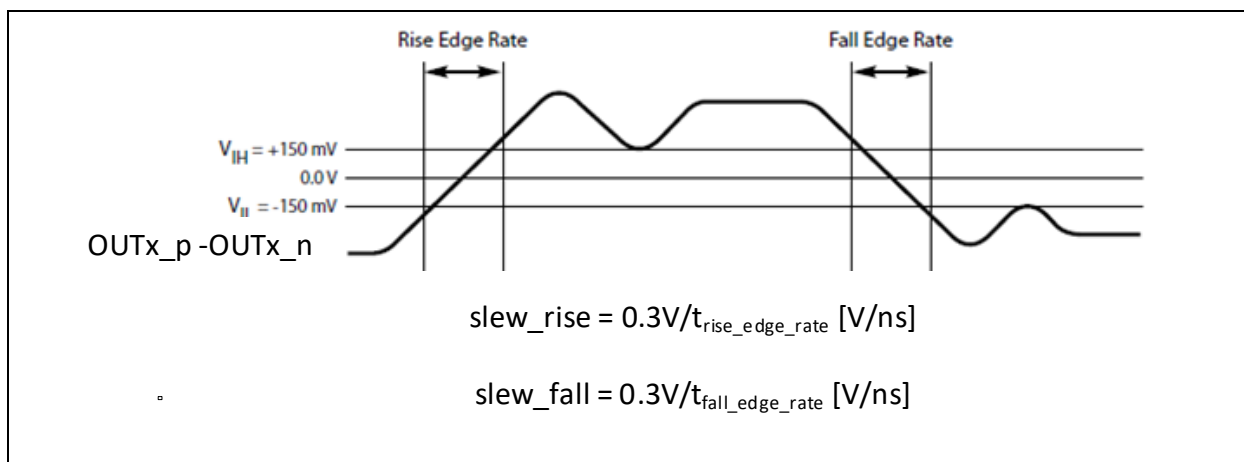

Figure 18. Differential Measurement Points for Rise and Fall Time
(0) Output differential swing is calculated as V_{SW} = V_{OH} - V_{OL}. It should not be confused with V_{SW} = 2 * (V_{OH} - V_{OL}) used in some datasheets
(1) Measurement taken from single ended waveform
(2) Measurement taken from differential waveform.
(3) Measured from -150 mV to +150 mV on the differential waveform (derived from CK minus CK#) The signal must be monotonic through the measurement region for rise and fall time. The 300 mV measurement window is centered on the differential zero crossing. See Figure 18